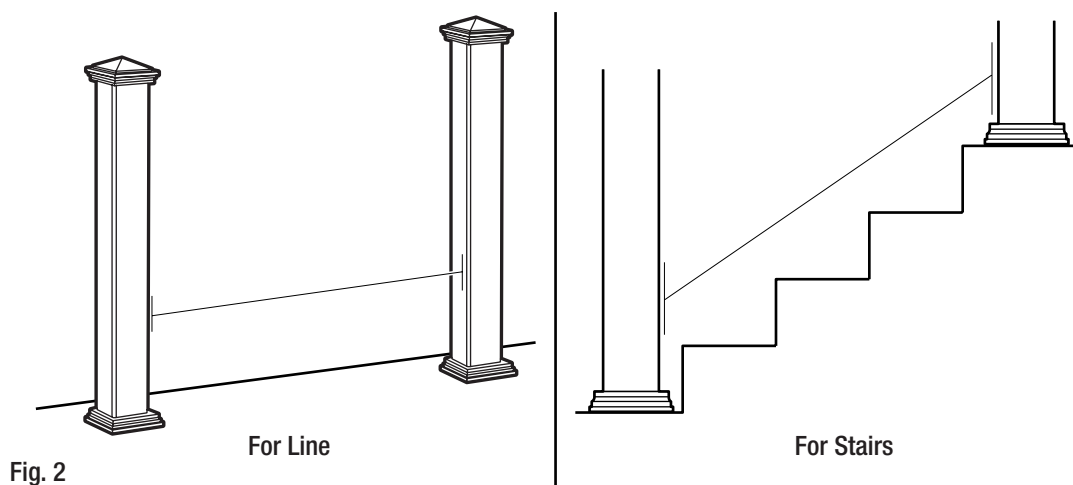

Fig. 2
- Measure the inside distance between properly installed, plumb posts. See Fig. 2 for Line and Stair Railings.